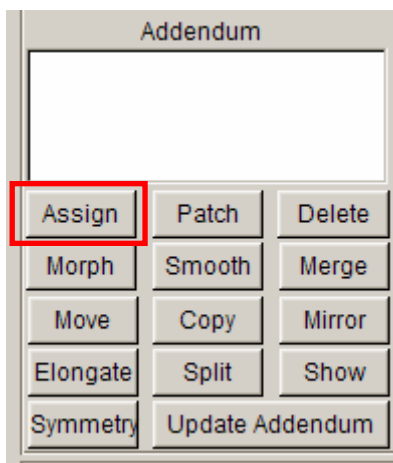

Figure 36 Addendum Operation
1. Click **Assign** button in the **Addendum Generation** dialog box, as illustrated in Figure 36